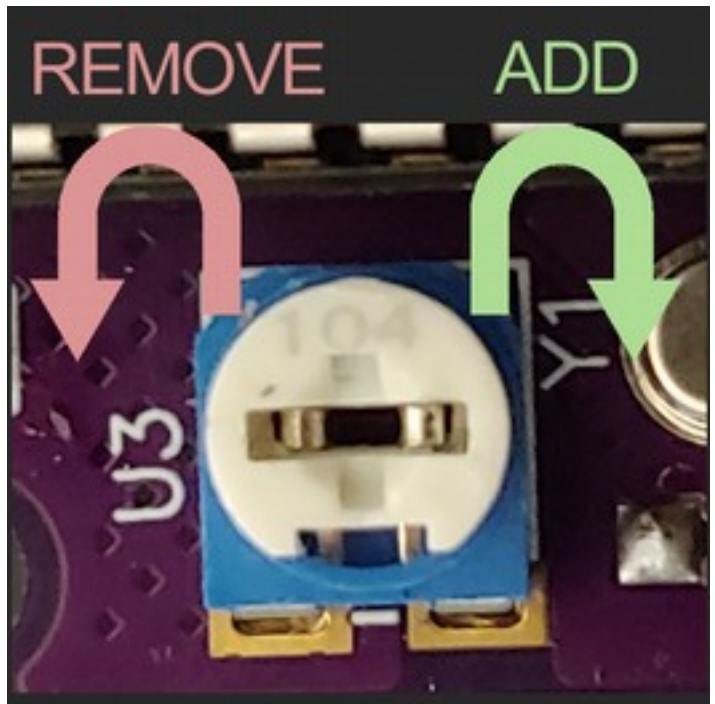

Figure 6
11. (Optional, but recommended): If you have a wideband EGO (O2) sensor with gauge, fine fuel adjustments can be made. Disconnect any ECU EGO feedback and perform an ECU reset. Start your vehicle and allow it to reach normal operating temperatures. Use a flat-head screwdriver to move the adjustment potentiometer clockwise (adds airflow to calculated value), or counter-clockwise (removes airflow from calculated value; see *fig. 6*) to bring your idle to stoich -- lambda 1.0; AFR 14.7:1. This is software controlled and has a maximum of +/-20% correction to output airflow. Do NOT use this to adjust for larger or smaller injectors. Use this ONLY as a minor correction tool! If you change injector sizes, it is important that you get tuned!